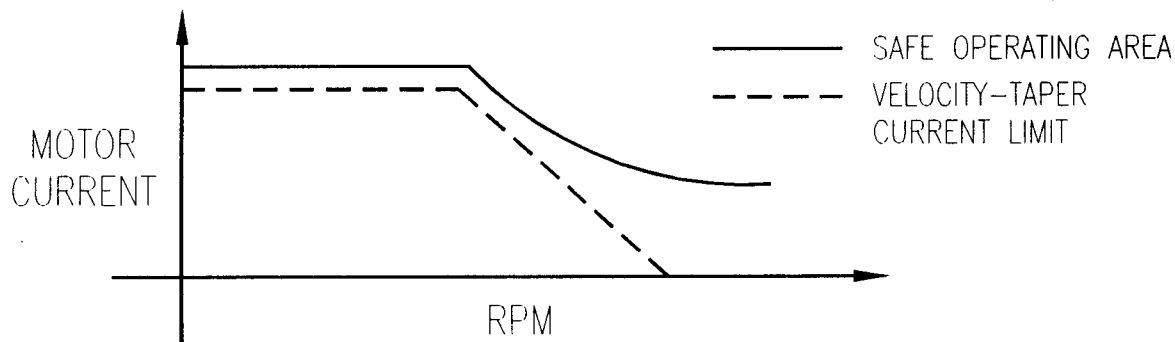

Figure 2.3.7
2.3.8 VELOCITY-TAPER CURRENT-LIMIT (GA4568EPB ONLY): Motor specifications often include an SOA (Safe Operating Area) curve which is maximum motor current as a function of RPM (See figure 2.3.7). The optional VTCL (Velocity-Taper Current-Limit) ensures that the maximum available motor current is within SOA limits. Below maximum, the motor current is still controlled by the velocity-error (or current-command) signal. The VTCL may decrease the rate of acceleration and deceleration. Consult a Glentek applications engineer before ordering.